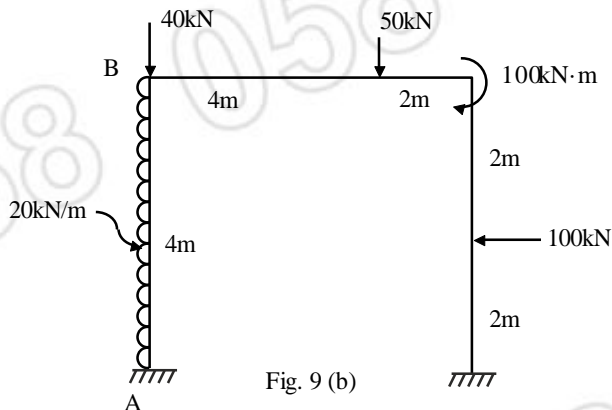

Fig. 9 (b)
b) Find the global load vector of the rigid jointed frame shown in fig. 9 (b). Take external temp. = 20°C , Internal temp. = 50°C , $\alpha = 1 \times 10^{-5} / ^\circ\text{C}$ $E = 2.54 \times 10^7 \text{ kN/m}^2$.